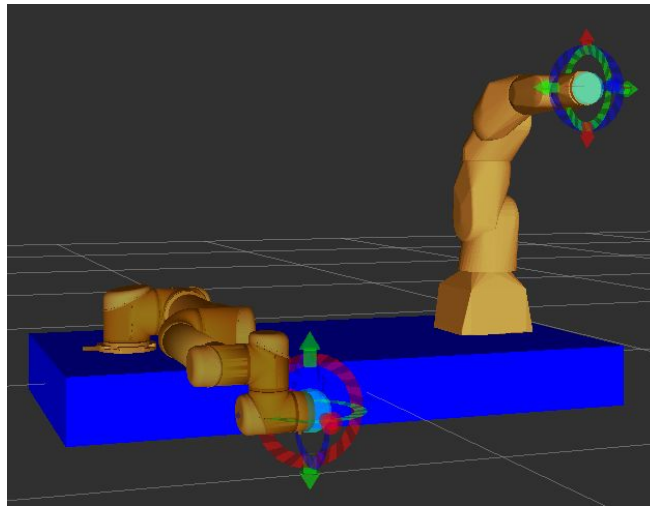

Figure 2. Dual manipulator system with UR5 and SIA5D mounted on a solid platform.
- 1) Download ROS-Industrial support packages for Universal Robots and replace one SIA5D manipulator with UR5 manipulator in the previously created dual manipulation setup (Figure 2).
Create a new Xacro-file where you replace one of the manipulators with Universal Robots UR5 industrial robot, e.g., Figure 2.